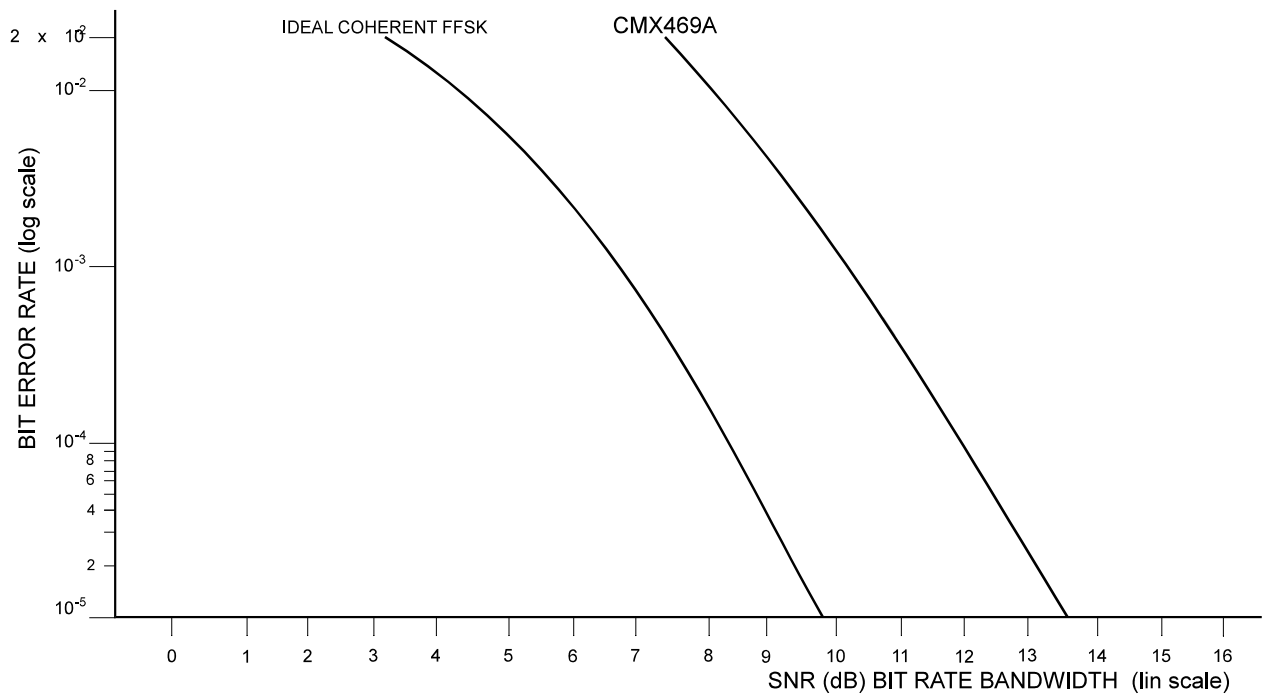

Figure 8 Typical Rx Bit Error Rate vs Signal-to-Noise Ratio
5. See Figure 8 (Typical Rx BER vs Signal-to-Noise Ratio).